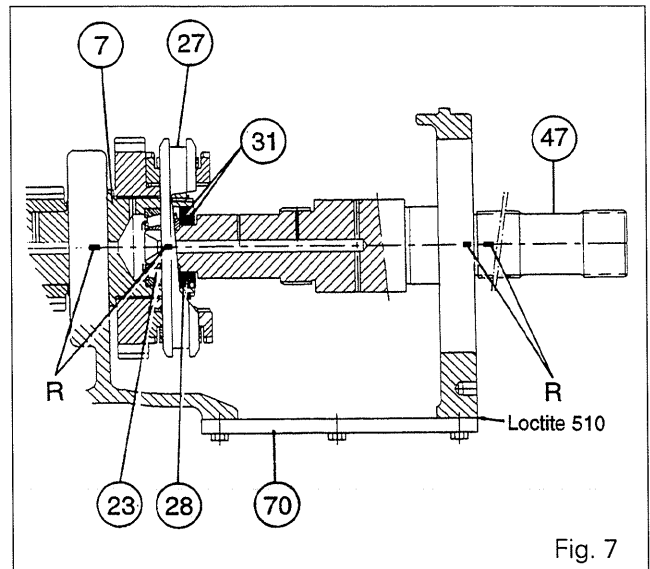

Fig. 7
19. Engage output shaft (47) in shaft (7). Draw a line of paint showing the position of shims across the walls, the synchromesh (27) and the output shaft (47) (Fig. 7).
20. Remove output shaft (47) while maintaining the shims and bearing cone (23) onto shaft (7).
- the Tortoise gear (40),